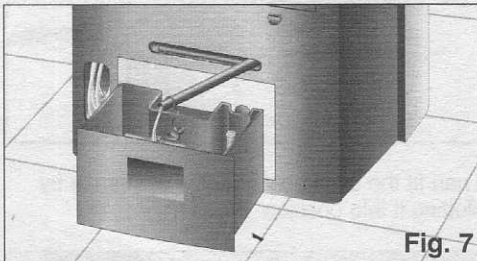

Fig. 7
- Before tilting it, empty the condensed water from the internal tank by extracting the water drainage pipe from its housing and removing the plug, Fig. 7. Do not forget to replace the plug and reinsert the pipe in its housing when the tank is empty.
In conditions of extreme humidity, the appliance accumulates condensed water in an internal tank. When a certain level is reached an indicator light, **Fig. 3**, comes on indicating that the condensed water tank is full and needs to be emptied. When this happens, the appliance stops cooling the air in the room until the water is drained, as explained in "Transportation requirements", **Fig. 7**.